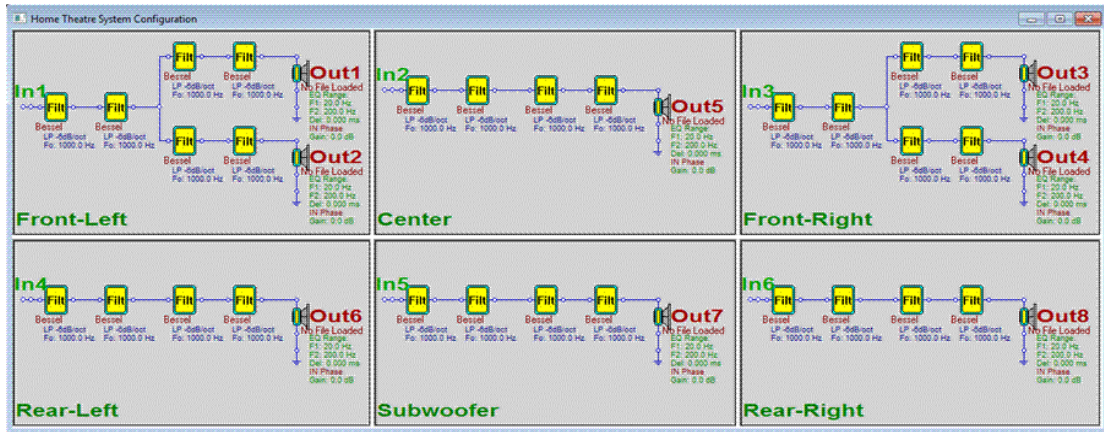

Figure 61. Home Theater 1 option.
- **Home Theater 1:** This option loads a default 5.1 Home theater system where the left and right front speakers are 2-ways and the center channel, left and right rear speakers and the subwoofer are 1-ways. The 1-way option allows the user to apply equalization to speakers used in these positions, Figure 61.